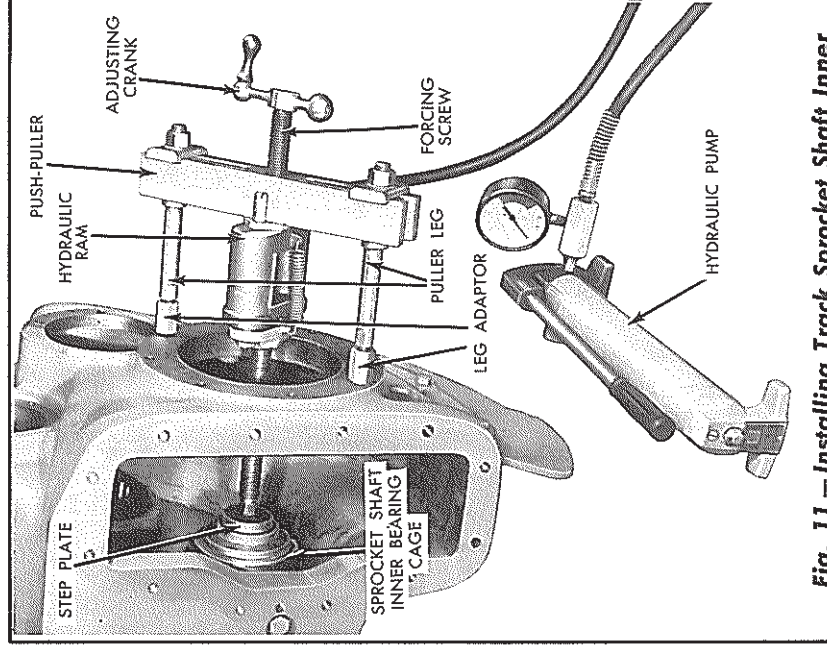

Fig. 11 — Installing Track Sprocket Shaft Inner Bearing Cage and Cover
If the track sprocket shaft inner bearing cage and cover were removed for replacement of the inner bearing cup, use tools similar to the ones shown in Fig. 11 to install the inner bearing cage and cover in the final drive housing.
1. Install the inner bearing cover packing ring (Neoprene) in position on the sprocket shaft inner bearing cover. Start the inner bearing cover and packing ring in position in the bore of the final drive housing. Install the inner bearing cup in position in the sprocket shaft inner bearing cage and press the inner bearing cage and cover into position in the final drive housing using tools similar to the ones shown in Fig. 11.